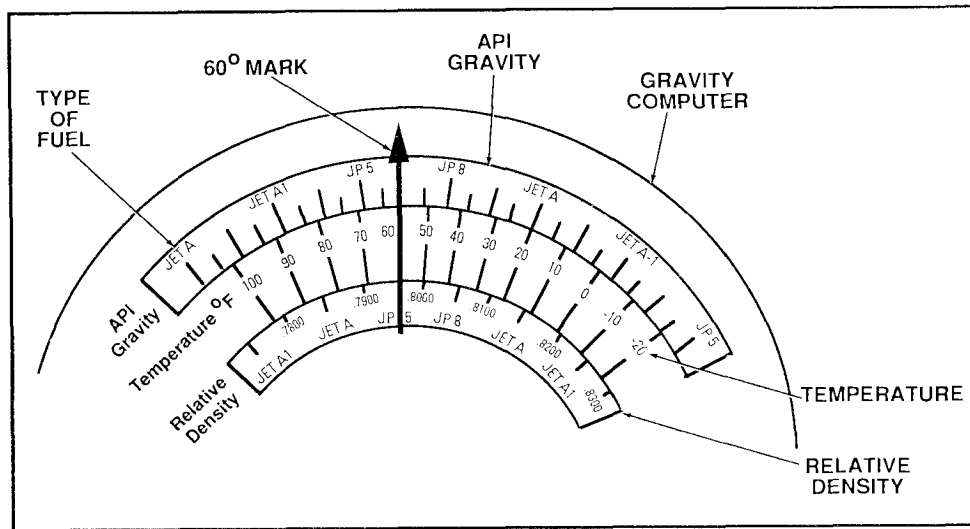

Figure 2.20 Reading Corrected API Gravity, Temperature, and Relative Density
- b. Read and record the corrected gravity, temperature, and relative density indicated at the 60° mark on the computer scale (Figure 2.20). Refer to the example shown on the gravity calculator as well.